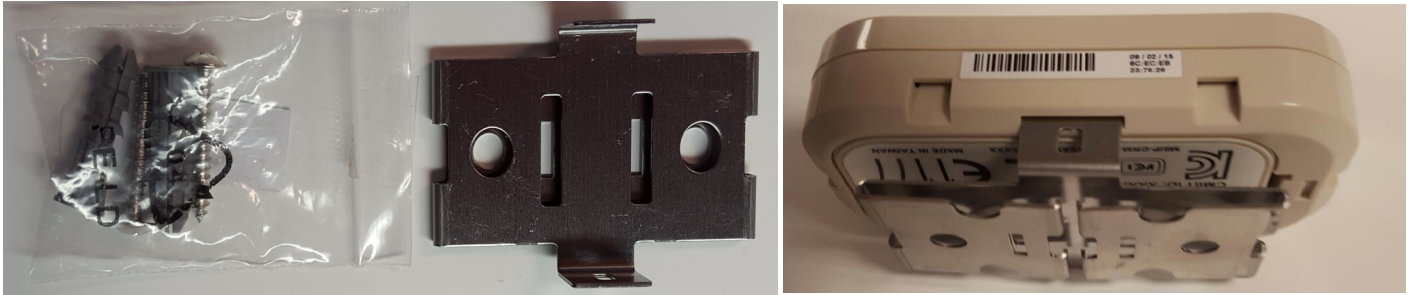

Figure 2-7 Metal Beacon Wall Mount Bracket: MPACT-MB2000-01-WR
- Bracket mount kit see Figure 2-7 (included with part number MPACT-MB2000-01-WR):
- .b Press the beacon's housing onto the bracket as shown in Figure 2-7.